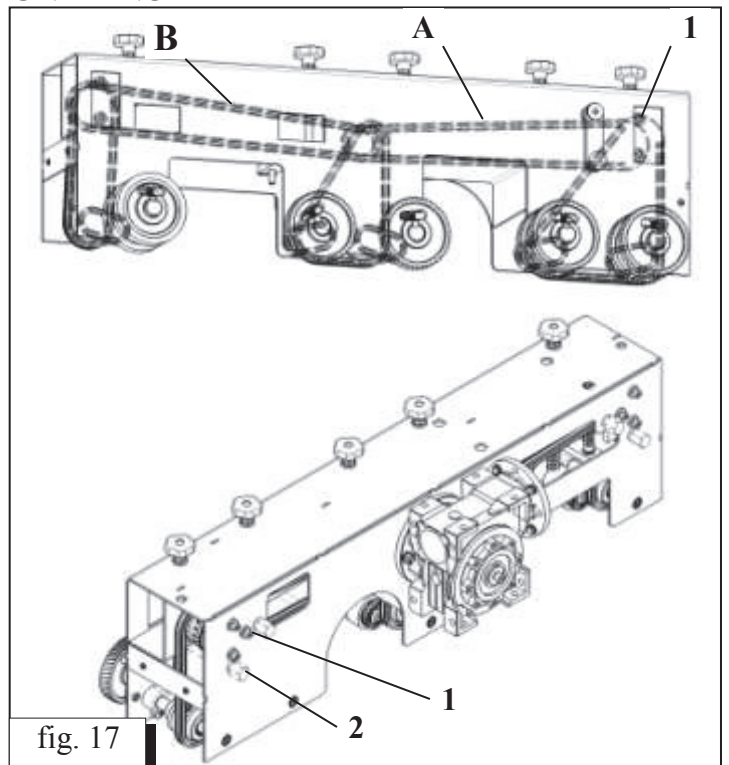

fig. 17
2. For tensioning the chain **A** unscrew the screws (1, Fig. 17) and the chain slackens.
3. Perform tensioning the chain using 2 eccentric bolts (2, Fig. 17) delivered with the machine. For that purpose, they must be inserted in their respective holes and turned in the required direction in order to achieve the required tension.
4. Lock the chain puller support using the screws (1, Fig. 17) and take out the eccentric bolts.